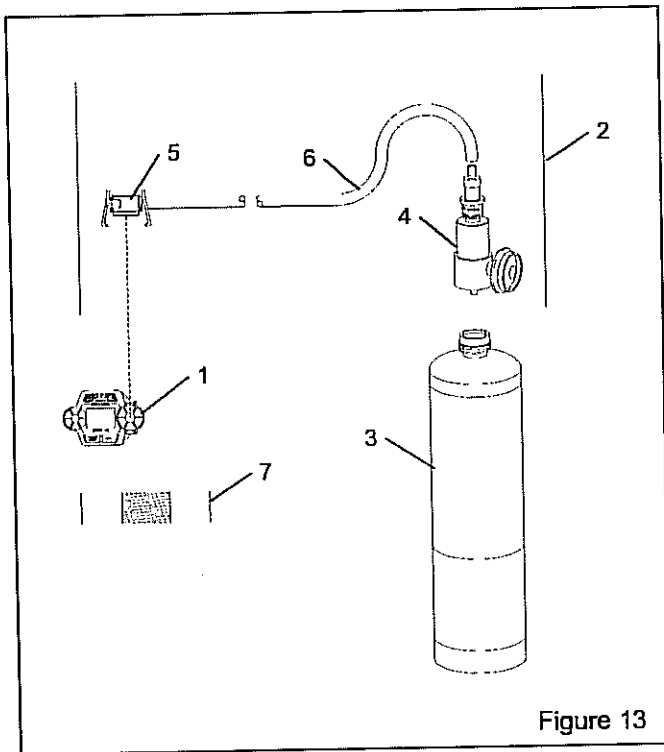

Figure 13
7.1 System and Accessories, Figure 13